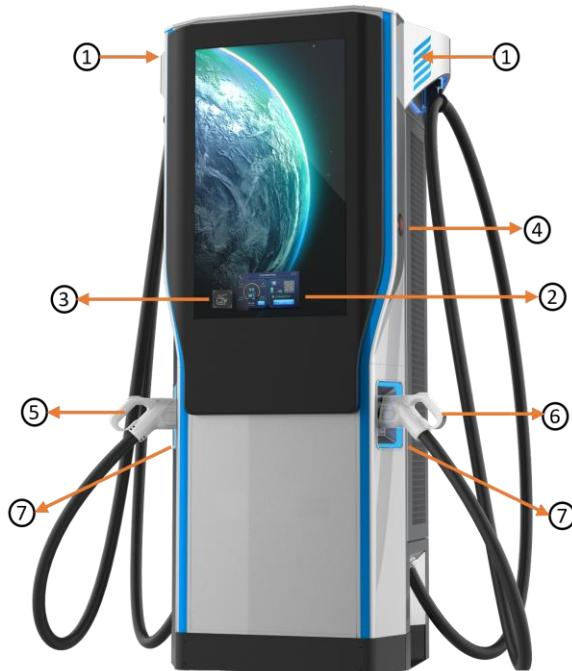

Fig. 6-1 Surge Protection Device
- d) During use, check the small firing pin or indicating window on the surge protection device (SPD) frequently as shown in Fig.6-1. If the firing pin protrudes or the window turns red, it means that the surge protection device has failed and should be replaced immediately.